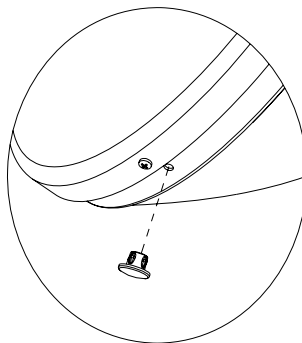

Fig 5.2
- 5.3 Remove the plug from the bottom drain-hole (shown Fig 5.2). Ensure that the top drain-hole plug is fitted securely.